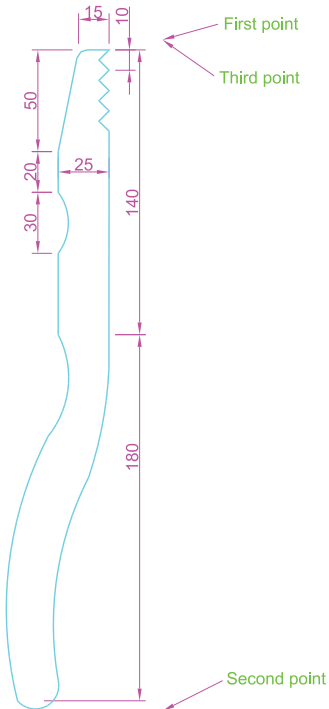

Fig. 14.16 First example – **3D Mirror** – outline of object to be mirrored
1. Working on a layer colour green, construct the outline in Fig. 14.16.